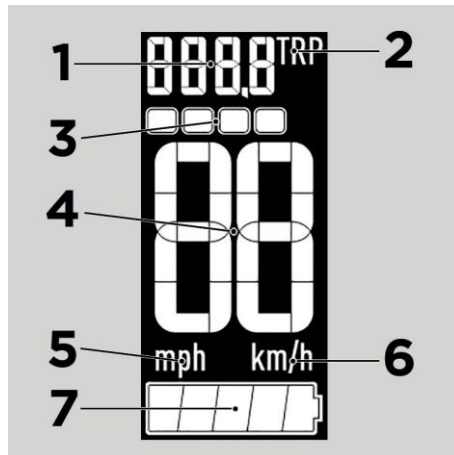

Figure 8: LCD display
Figure 8 shows all segments of the display. While riding, the display does not show all segments at once - it looks more like the screen above [Figure 7]. In the above example, at a speed of 27 km/h, you are riding with the third support level. The battery is not fully charged, but it is well charged, and you have covered a distance of 65.3 kilometers on this trip.
At the top right [Figure 8, number 2], the display shows either the travelled trip distance (TRP), the estimated remaining range of the pedelec (R) or the odometer (the total distance travelled by the pedelec = T). The default setting for the display is TRP. Press and hold the "-" key (chapter 5) to reset the TRP counter to 0.
Long-push „Set“ (chapter 5), to toggle between metric units (km/h = kilometers/hour) and Imperial units (mph = miles per hour). The units are shown in Figure 8 (numbers 5 and 6).
The largest part of the display shows the pedelec's current speed [Figure 8, number 4]. To change the units (km/h or mph), press and hold the "Set" button.